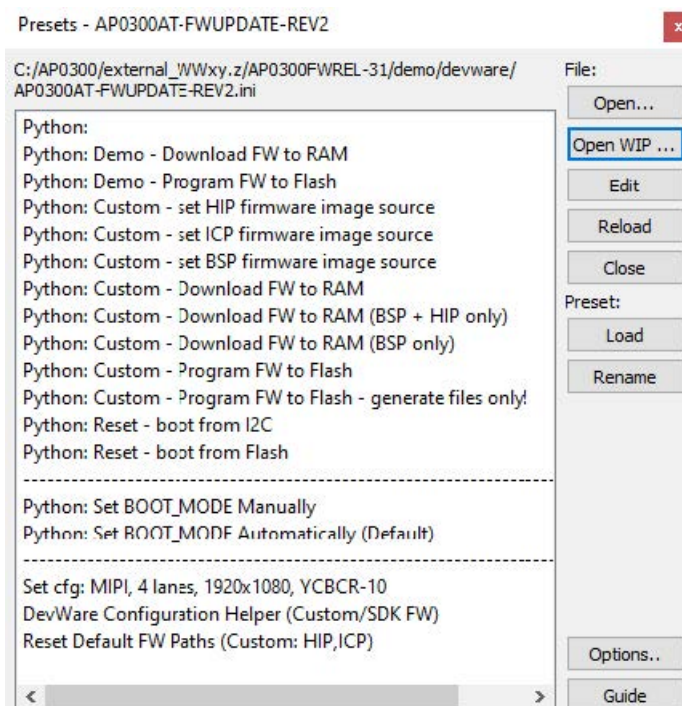

Figure 7. FWUPDATE Presets Window
7. (ALL) The Presets window should now be open, this is loaded from an INI file located in the same directory, and with the same name, as the previously selected XSDAT file, and should look similar to Figure 7.